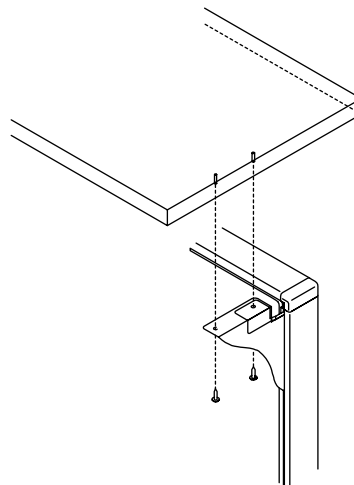

FIG. 2
5. Set the countertop on the (2) brackets and drive (4) #12 x 1" screws into the pre-drilled holes in the countertop. Note that when properly installed, the countertop will extend approximately 4" over the panel on the outside of the station (Figure 2).
6. If (2) countertops are adjoining each other, mount a splice plate in the pre-drilled holes on the inside of the station, and secure with (4) #12 x 1" screws.